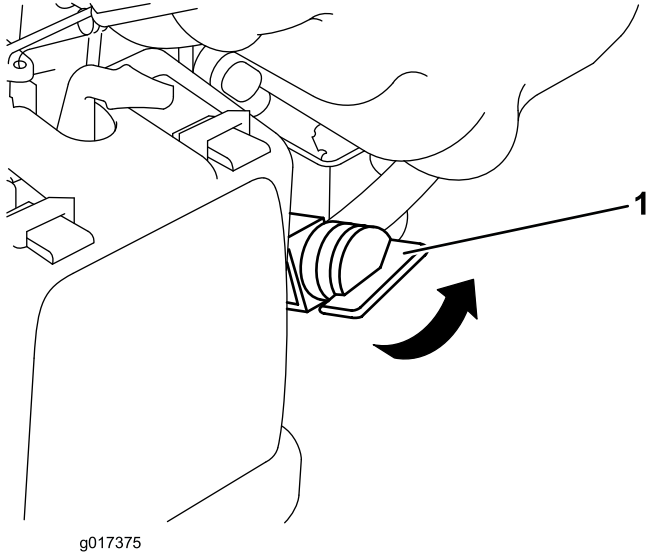

Figure 12
2. Turn the fuel valve to the On position (Figure 12).